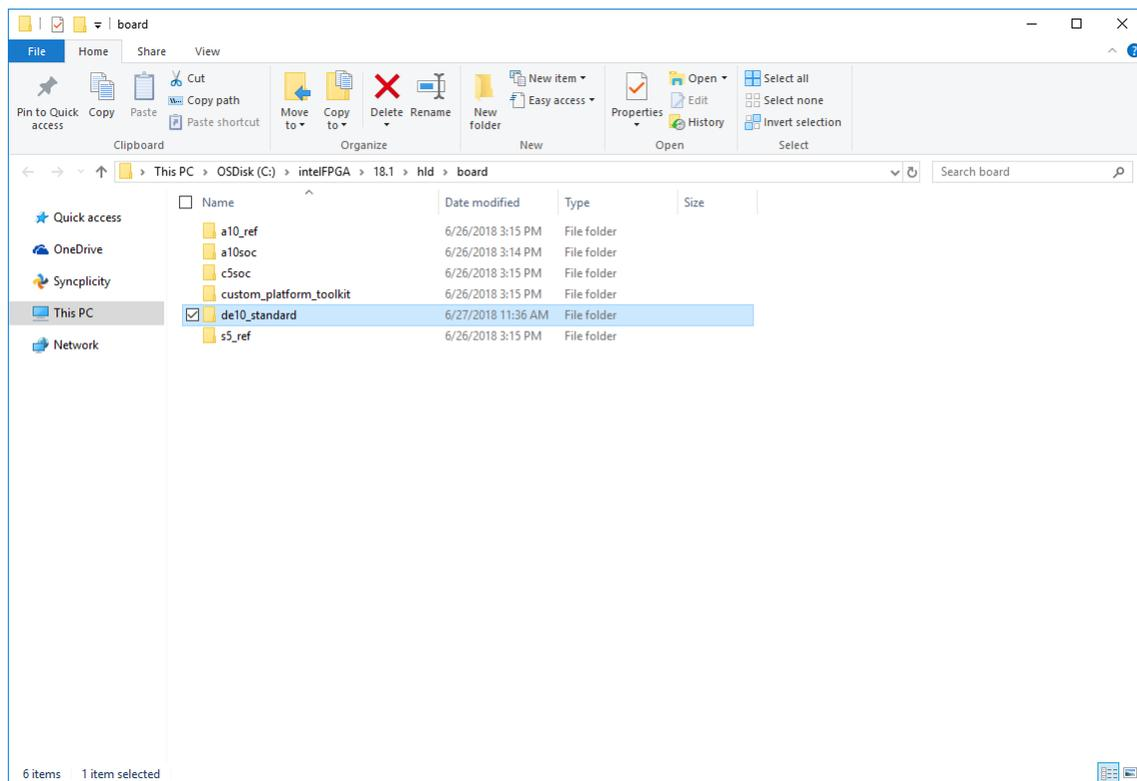

Figure 8. Extracting the Board Support Package to the $\langle quartusroot \rangle / hld / board /$ Directory
4. Download the OpenCL BSP and extract its contents to `<quartusroot>/hld/board/`. Figure 8 shows the result of extracting the BSP contents for the DE10-Standard board to `<quartusroot>/hld/board/`.